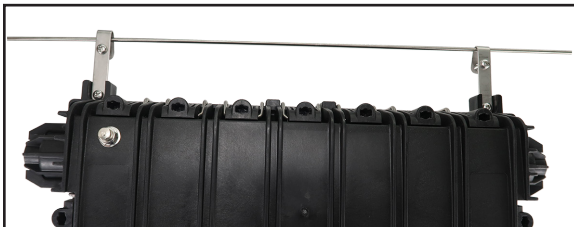

Figure 2-3: Mount the closure to the wire
- 2 Mount the closure to the wire and fasten the bolts (Figure 2-3).